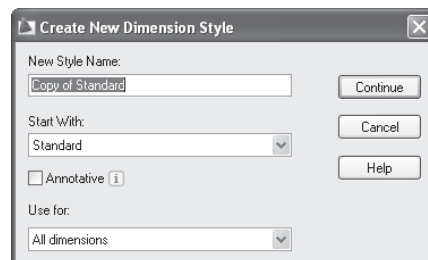

Figure 10.24
2. Select Standard from the Styles list (see Figure 10.24). Metric users should select ISO-25.